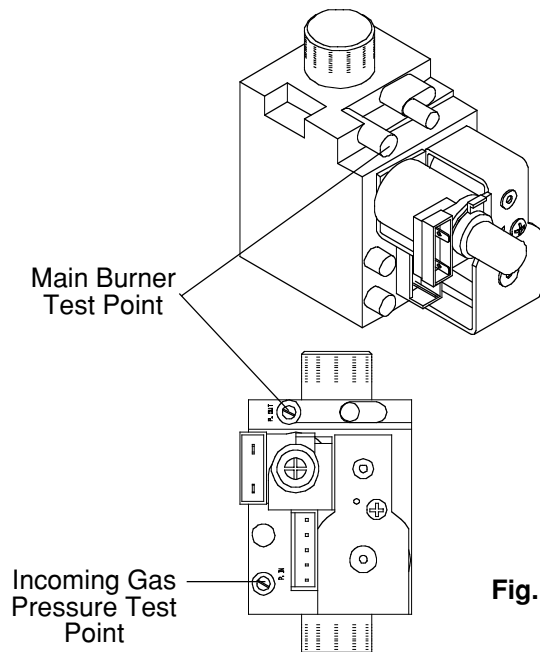
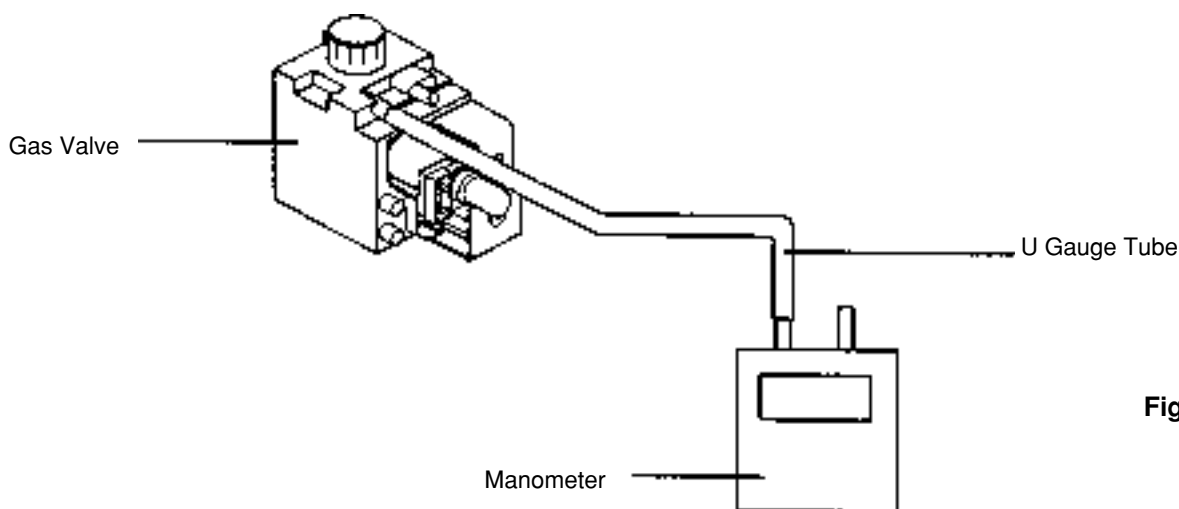

Fig. 19
Fig. 22
6.6.5 Locate the main burner pressure test point (Fig. 19) and slacken the screw half a turn in an anti clockwise direction. Attach a suitable U gauge tube between the test nipple and manometer (see fig. 22).